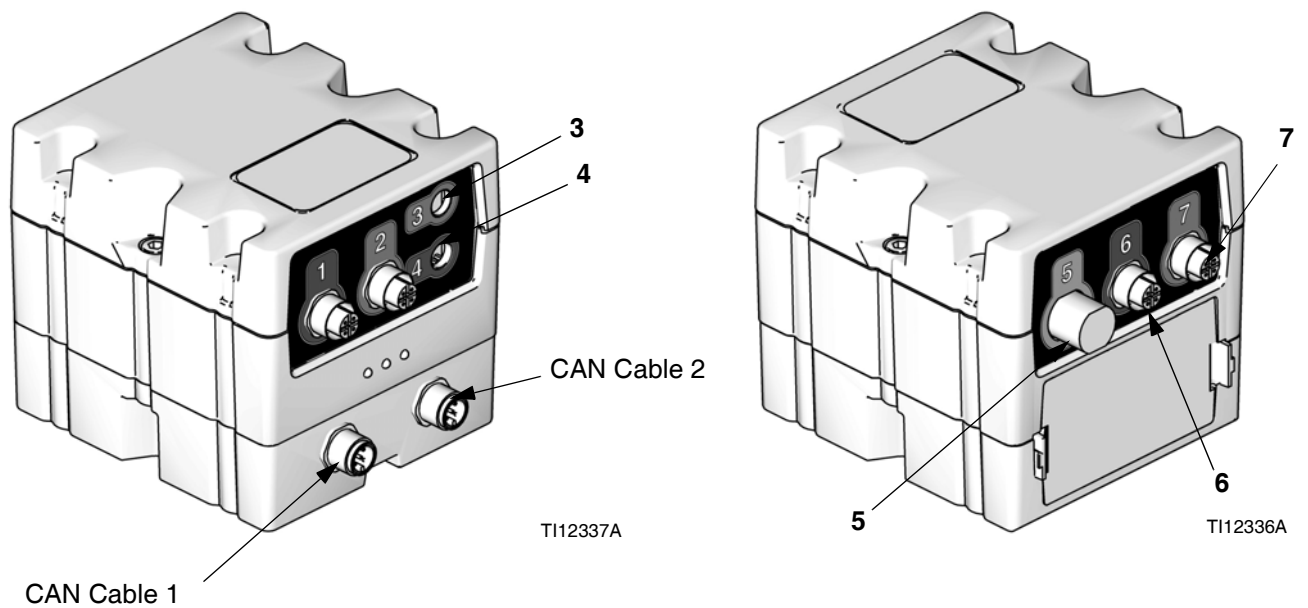

FIG. 7: FCM Sensor Connections
- Fluid control module (K). See FIG. 7, page 13.
- 3. Replace the existing cable between the empty sensor (EE) and FCM connector (see FIG. 7, page 13) with the empty/low sensor splitter cable.